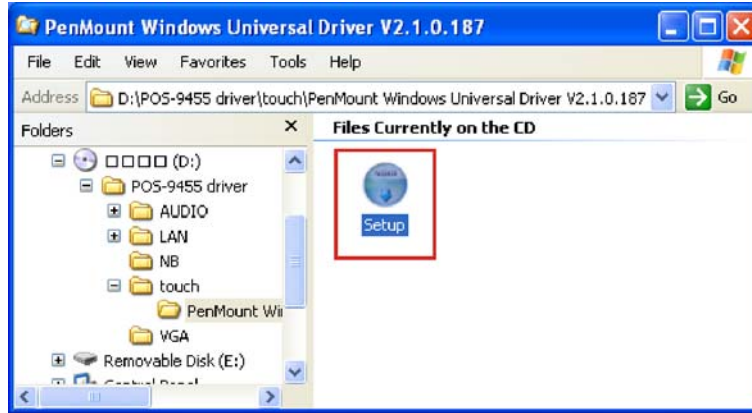

Figure 6-24: S-Video Patch Folder
Step 1: Browse to the **Touch** directory on the installation CD (Figure 6-24).
Step 2: Double-click the **setup** icon (Figure 6-24).